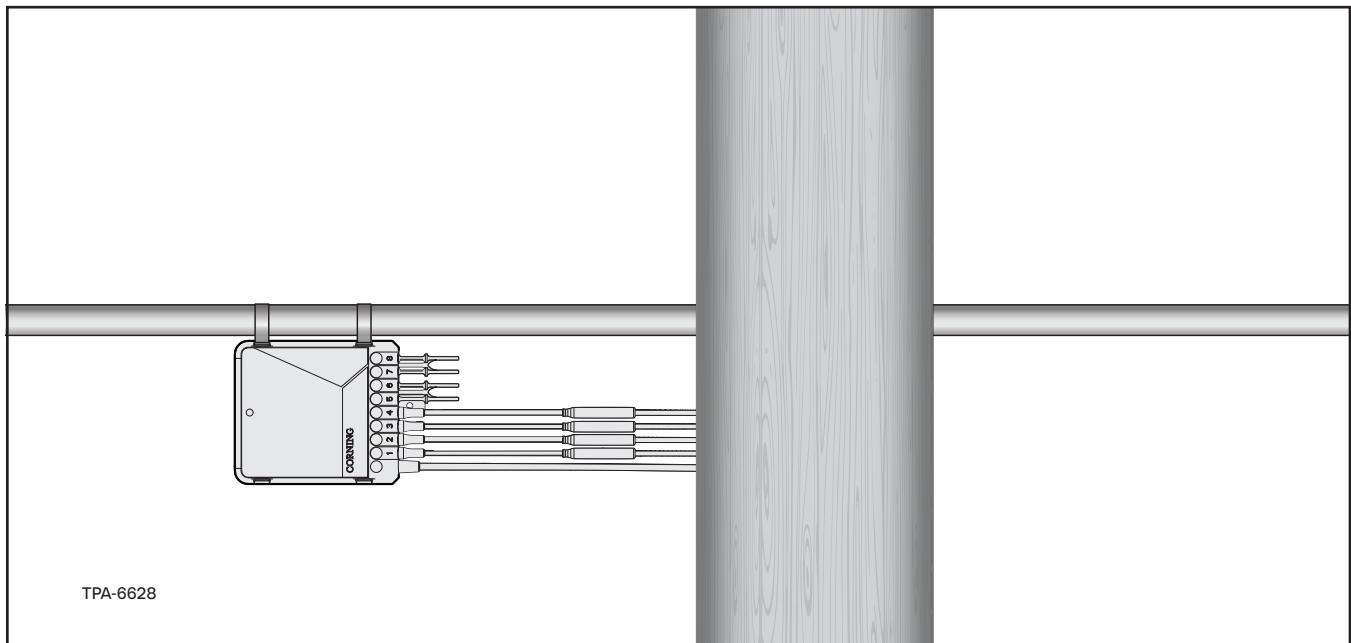

Figure 3
**Step 2:** Install the terminal as described below for your installation location (Figure 3).